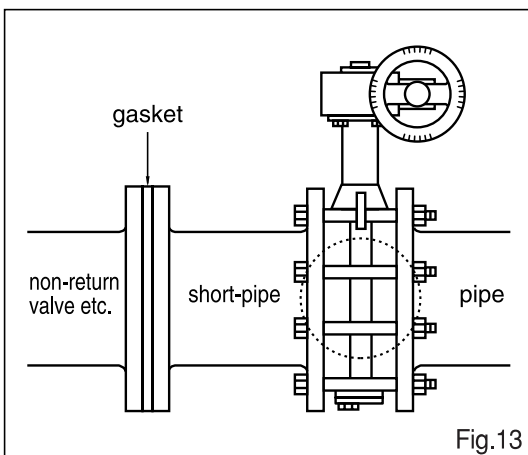

Fig.13
- **Installation the valve to a return valve, etc...** : When the valve to be installed directly to return valve, pumps, etc..., there may be cases in which disc touches to other upon its full opening. In this case, short-pipe to be fixed before installation of the valve. (Fig.13)